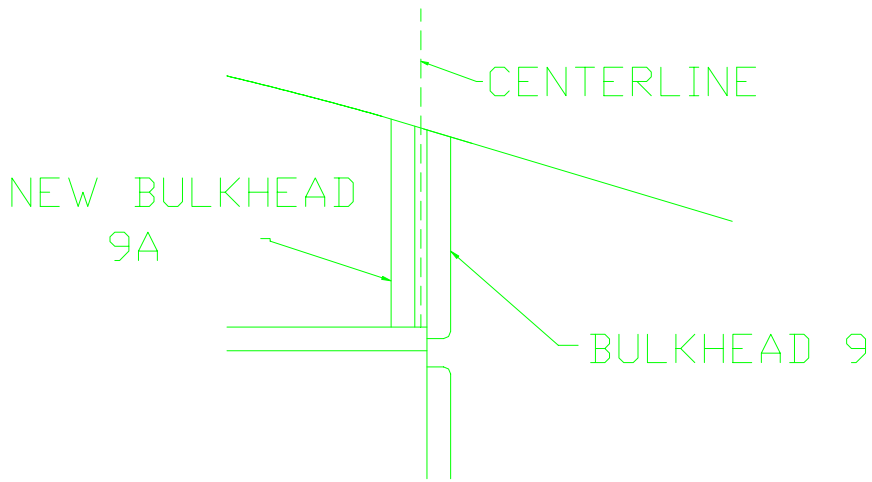

Figure 9.13.5
- 12) Draw a line down the center of the space between bulkheads 9 and 9A. Figure 9.13.5.